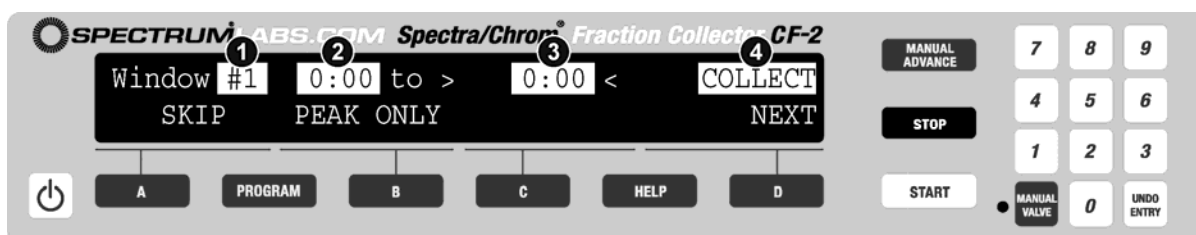

Figure 4-2. Programming Time Windows
The display should now be similar to that illustrated in Figure 4-2. The display shows (1) the consecutive number of the window being programmed, (2) the starting time of the window, (3) the ending time set for the window, and (4) the status of the window.